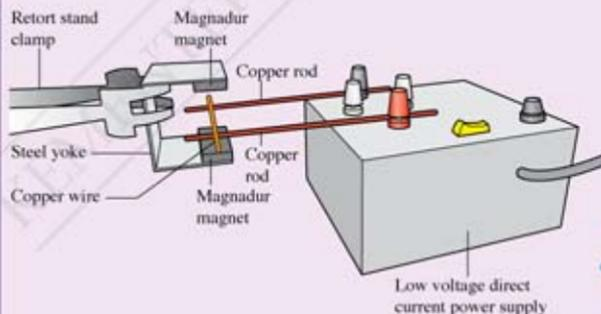

Figure 4.1
1. Set up the arrangement of apparatus as shown in Figure 4.1.